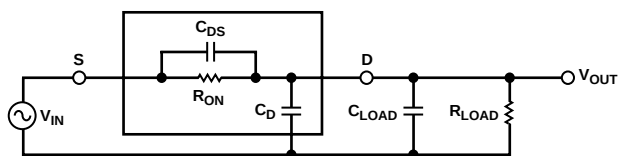

Figure 7. Switch Represented by Equivalent Parasitic Components
Figure 7 illustrates the parasitic components that affect the ac performance of CMOS switches (the switch is shown surrounded by a box). Additional external capacitances will further degrade some performance. These capacitances affect feedthrough, crosstalk and system bandwidth.
The transfer function that describes the equivalent diagram of the switch (Figure 7) is of the form (A)s shown below.